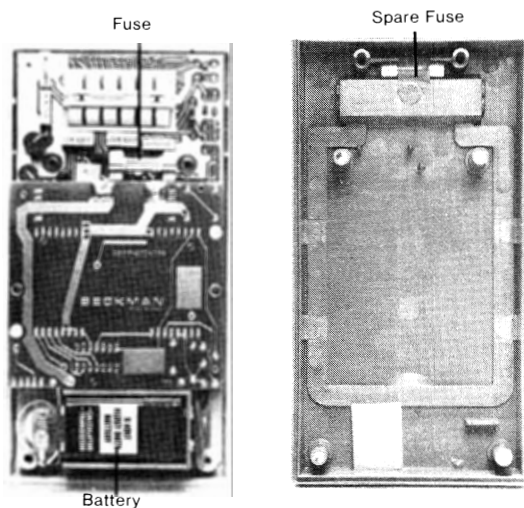

Figure 3-2. Multimeter, Internal View
2. Disconnect battery from instrument and replace with a standard 9-volt transistor battery, Figure 3-2.
2. The fuse is located in the upper half of the instrument, Figure 3-2.